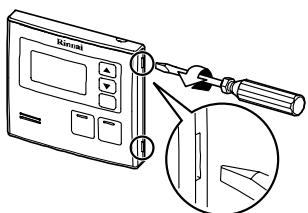

Fig. 2
- Carefully remove face plate from the water controller, using a screw driver (Fig. 2).